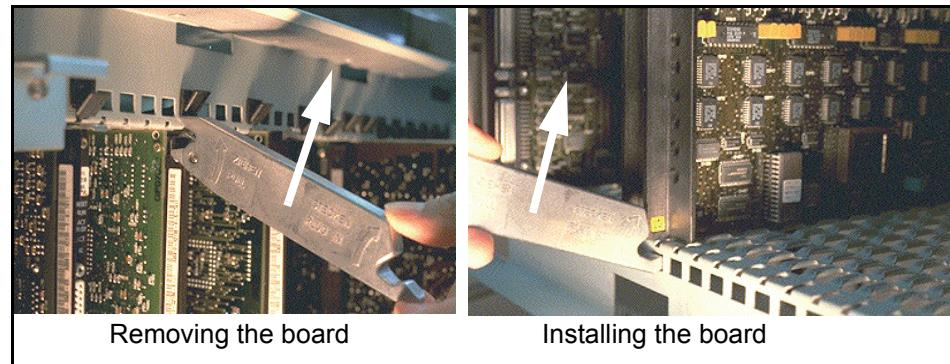

Figure 1 *Removing and installing the board*
1. Only use the supplied board removal and replacement tool (see Figure 1).